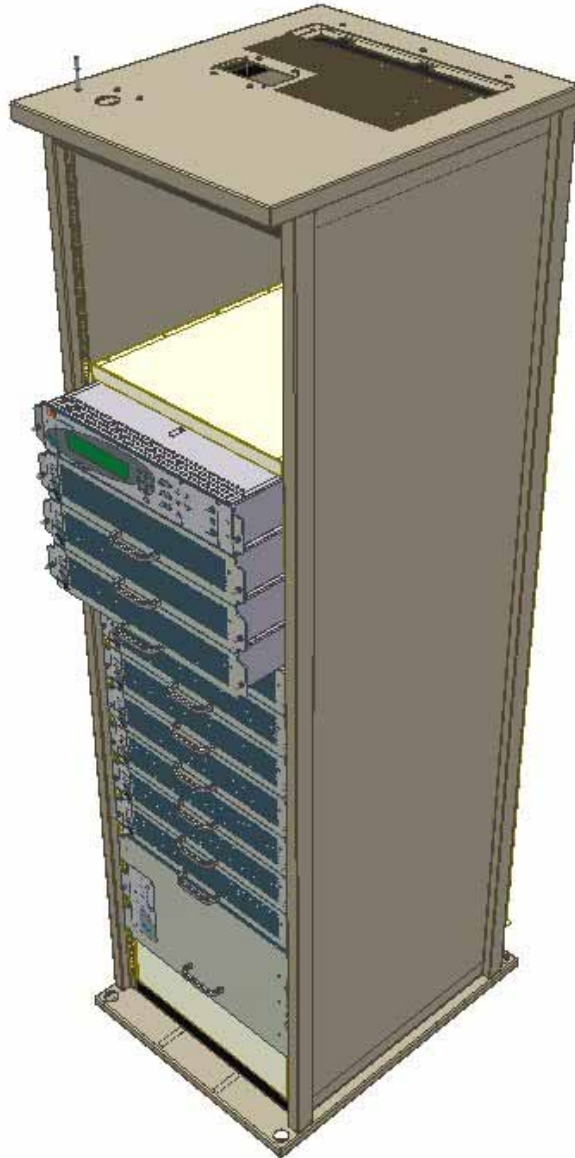
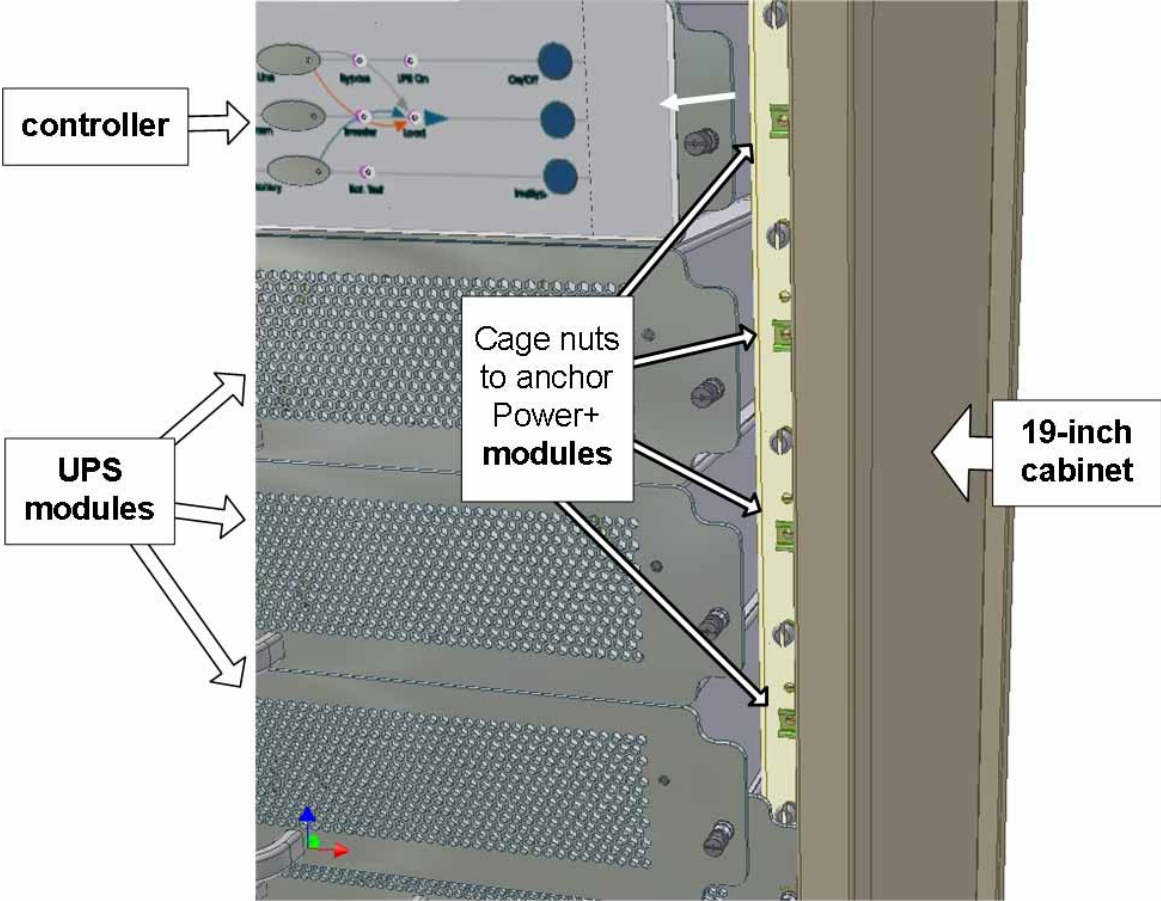

Figure 11: Installing the Freestyle in a rack (g)
Figure 12: Installing the Freestyle in a rack (h)
- Slide the controller module and the power modules into place in the Power+ chassis and secure them in place by screwing their screws through the Power+ chassis and the 19-inch cabinet into the cage nuts. (See Figure 11 and Figure 12 below.)